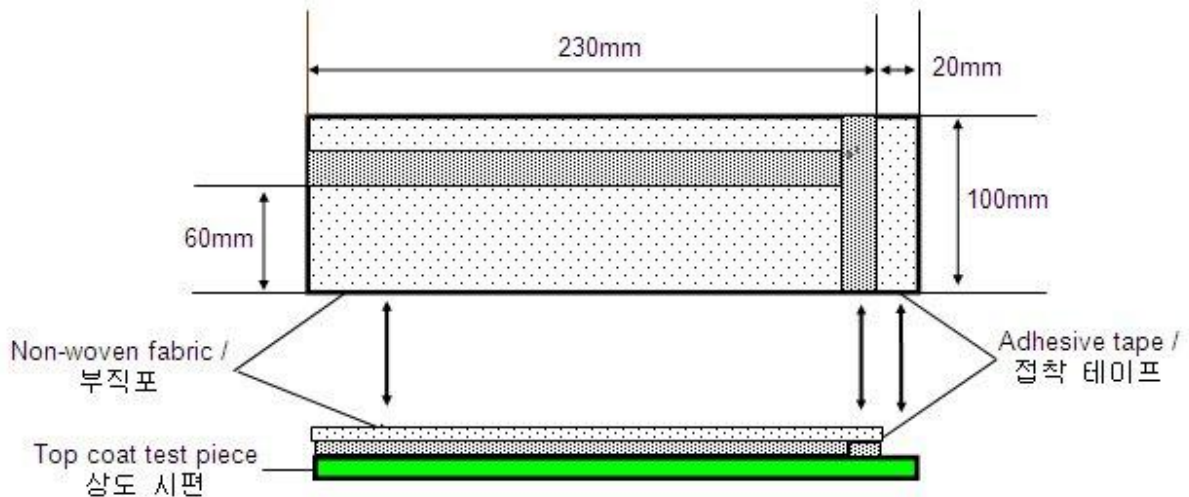

Figure 2: Non-woven fabric adhesion test piece /
3.3.1.4 In case of Paint, Protective Non-Woven Fabric, the test piece shall be manufactured as shown in Figure 2.